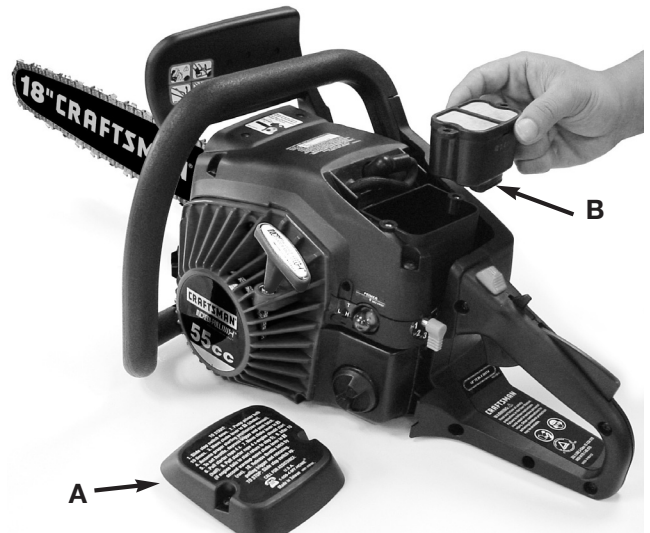

Fig. 31
1. Remove the top cover (A) by loosening the cover retaining screws. Cover will lift off (Fig. 31).